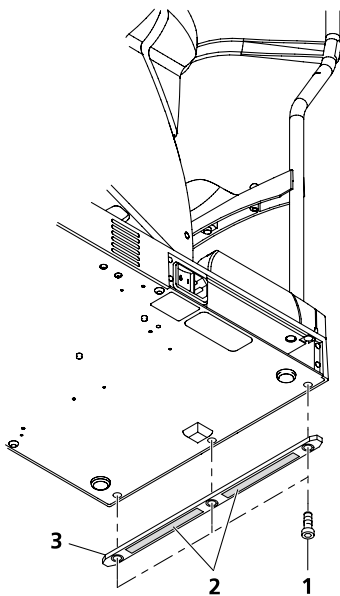

Fig. 7 Mounting holding bracket
The IOLMaster can be permanently secured with the aid of a holding bracket (**3**, Fig. 7) Holding brackets with two different widths are available:
- Remove the three hexagon socket (Allen) screws (SW3) (**1**, Fig. 7). The screws may be very difficult to loosen.
- Attach the holding bracket with adhesive strips (**2**, Fig. 7) facing outwards.
- Now lift/tilt the device slightly and remove the protective film (**2**, Fig. 7).